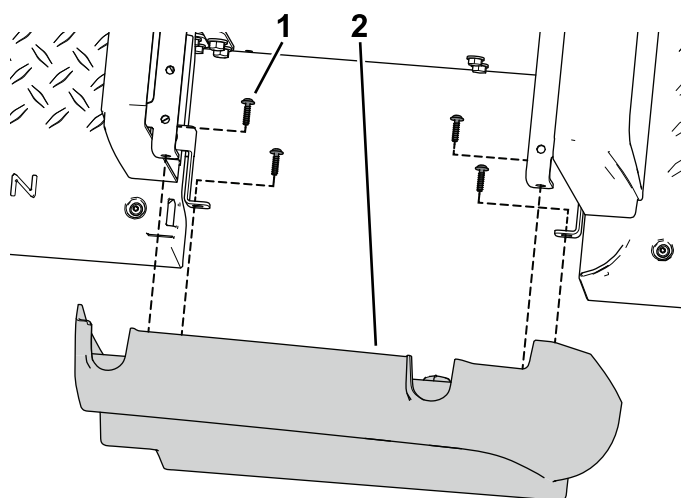

Figure 43
1. Use the 8 self-tapping screws (3/32 x 7/8 inch) to secure the left and right side panels from the kit to the front seat-base panels (Figure 43).